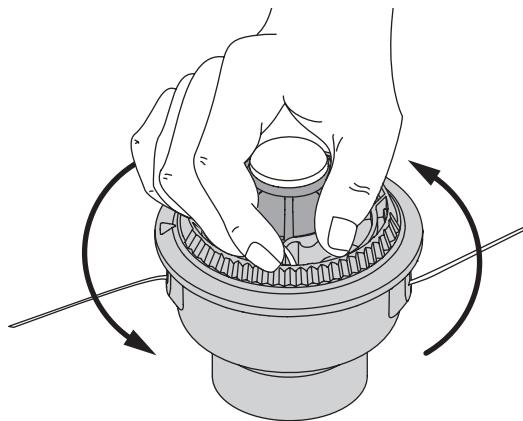

Fig. 16
- Hold the outer spool. Wind the inner reel counterclockwise until approximately four (4) inches (102 mm) of line remain (Fig. 16).